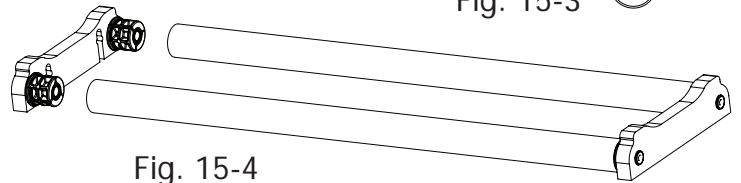

Fig. 15-4
- ✦ **Step 15-9:** Attach 2 complete conduit caps to the remaining bottom plate end, as shown in Fig. 15-4.